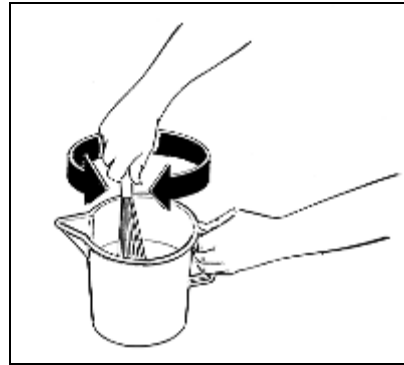

Fig. 26
- Dilute and mix the preparation in a separate container according to the manufacturer's instructions (fig. 26) without exceeding the following quantities: